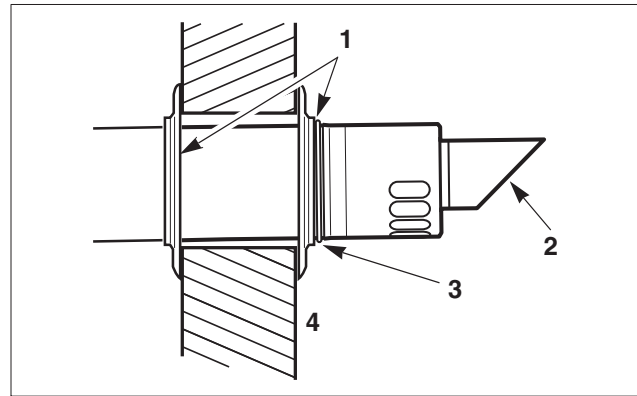

fig. 35 Flue terminal position
- Mark off the lengths shown onto the pipe and cut to length. The cuts must be square and free from burrs. Terminal assembly outer (air) pipe - L-70 mm, inner (flue) pipe - L-50 mm. The measurement is made from the ridge at the terminal indicating the outer face of the wall. Refer to figure 35. Extension outer flue - L-70 mm, inner flue - L-50 mm. The measurement is from the formed end.
- Assemble flue system completely. Push the flue fully together. The slope of the terminal outlet must face downwards (see fig. 35, item 1). The assembly will be made easier if a solvent free grease is lightly applied to the male end of the flue.